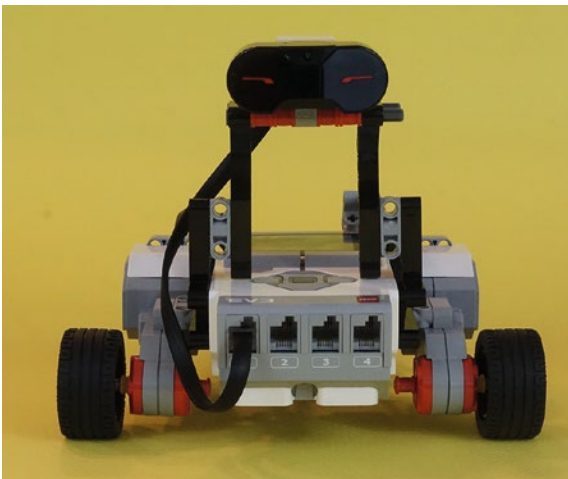

Figure 3-35. The Infrared Sensor connects to port 1
1. Connect a short cable from the Infrared Sensor to port 1, as shown in Figure 3-35.